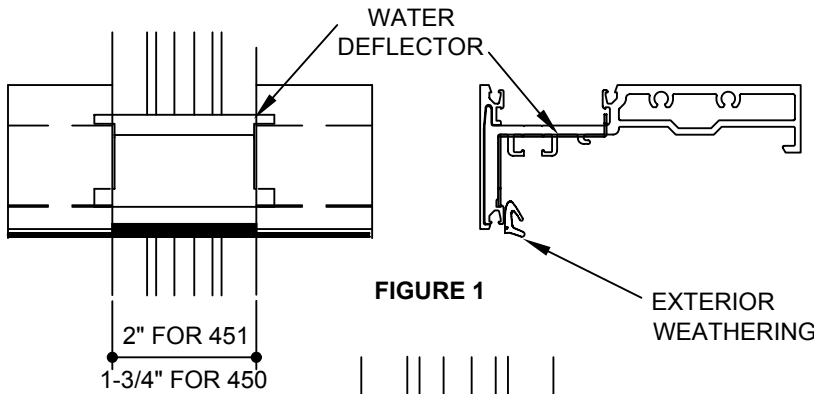

FIGURE 1
- STEP C:** At all intermediate horizontal water deflectors, cut the dart and back leg off of exterior weathering, (Figure 1). This will create a weep slot after the horizontal cover is installed.